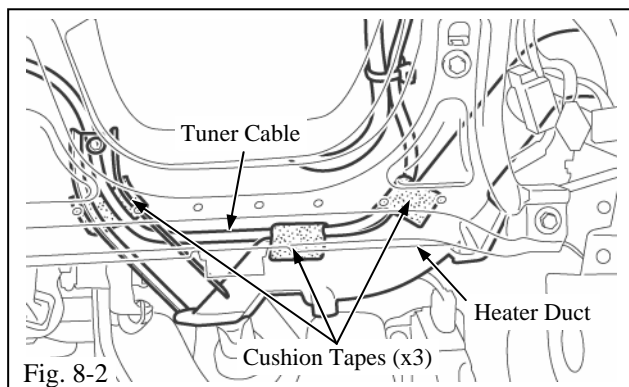

Fig. 8-2
(c) Use the cushion tapes to fix the tuner cable at the three (3) locations shown in the figure. (Fig.8-2)